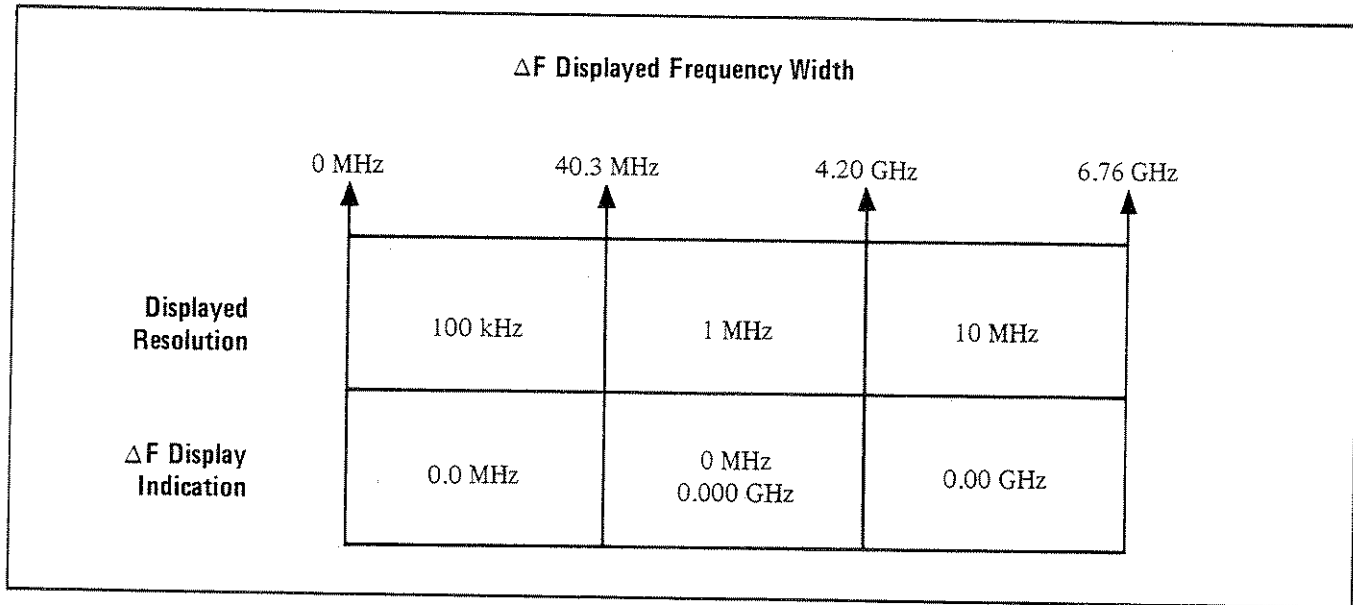

Figure 3-2. Model 83545A Delta F Sweep Mode Displayed Resolution
3-10. Center Frequency (CF) is always displayed with 1 MHz resolution. Likewise, Vernier values are always displayed at 10 kHz resolution. Display resolutions for  $\Delta F$  values vary with sweep width. Figure 3-2 illustrates the relationship of  $\Delta F$  mode display resolution and  $\Delta F$  sweep widths.